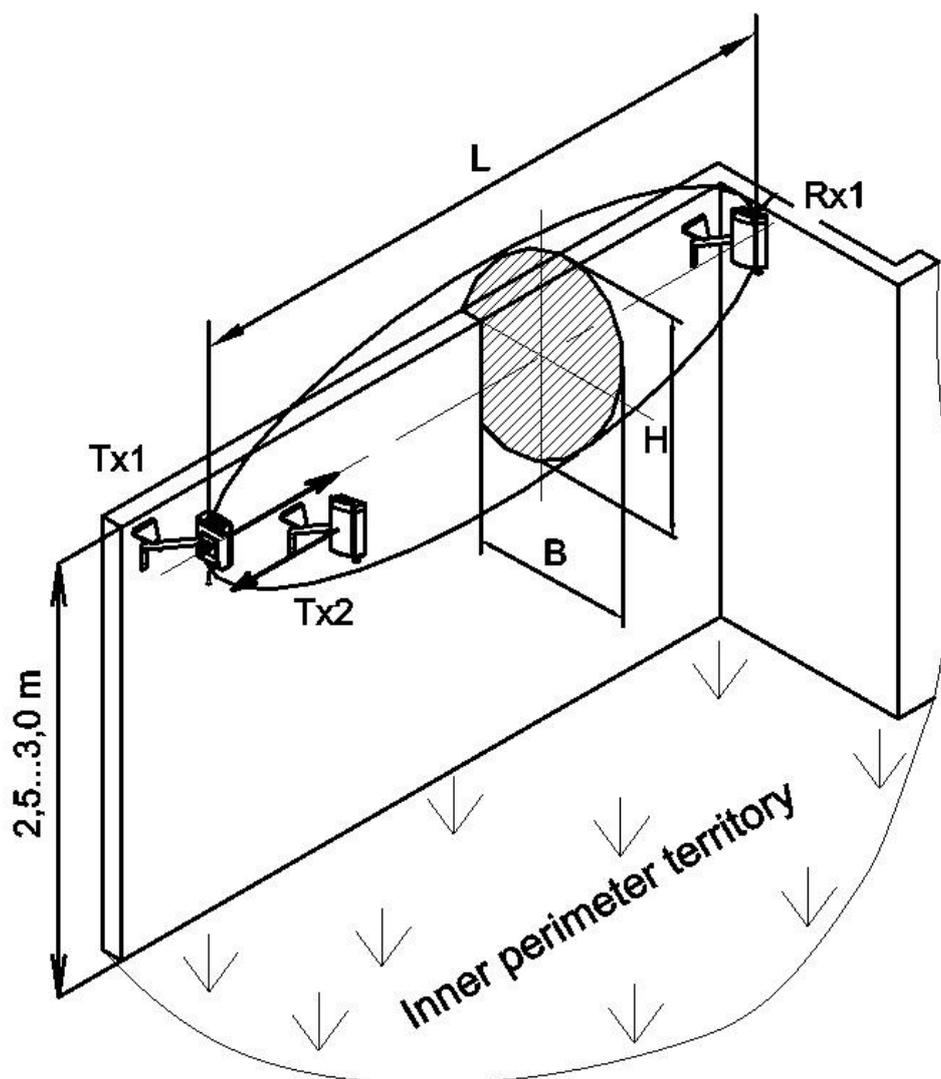

Fig.2.4
2.2.5. The mounting kit (MK) for mounting on the top of the fence can be delivered on the customer order to protect the perimeter site from the intruder climbing over the fence and the intrusion into the window. The example of the sensor installation with the brackets application 350, 500 mm is given in fig. 2.4. The detection zone sizes are shown in Table 2.1. The angles to turn horizontally the sensor units on the brackets are 180° , vertically: up – at the angle of 17° , down - 45° .